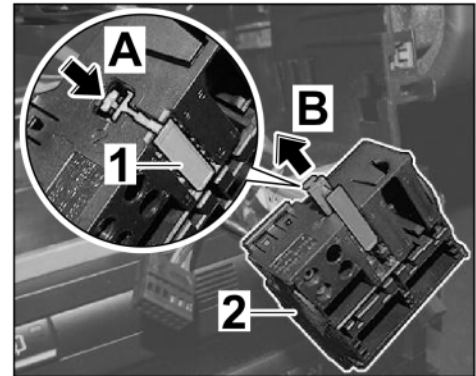

Figure 46
- 5.9.1 Release secondary lock ⇒ *Figure 46-1-* on the PCM central connector ⇒ *Figure 46-2-* (⇒ *Figure 46-arrow A-*) and pull it out ⇒ *Figure 46-arrow B-*.